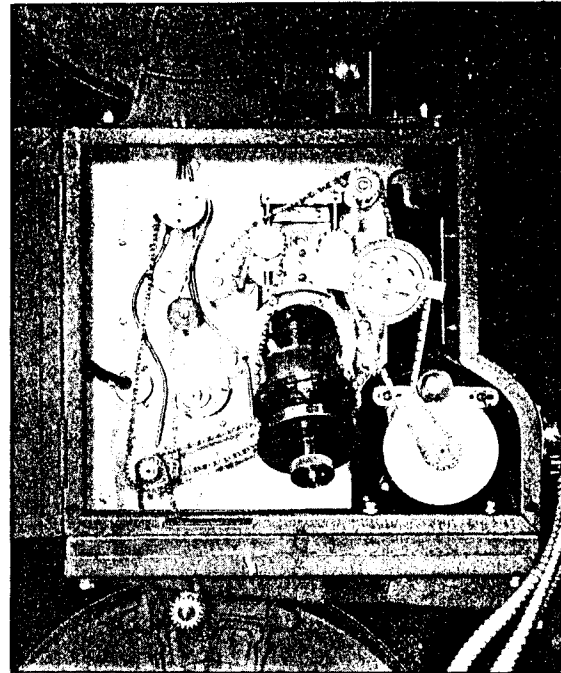

Figure 18.
- d. Move to the rear of the machine. The intermittent movement can be slipped out directly toward you. Be sure that the unit clears all chains during this removal process. Refer to Figure 18.